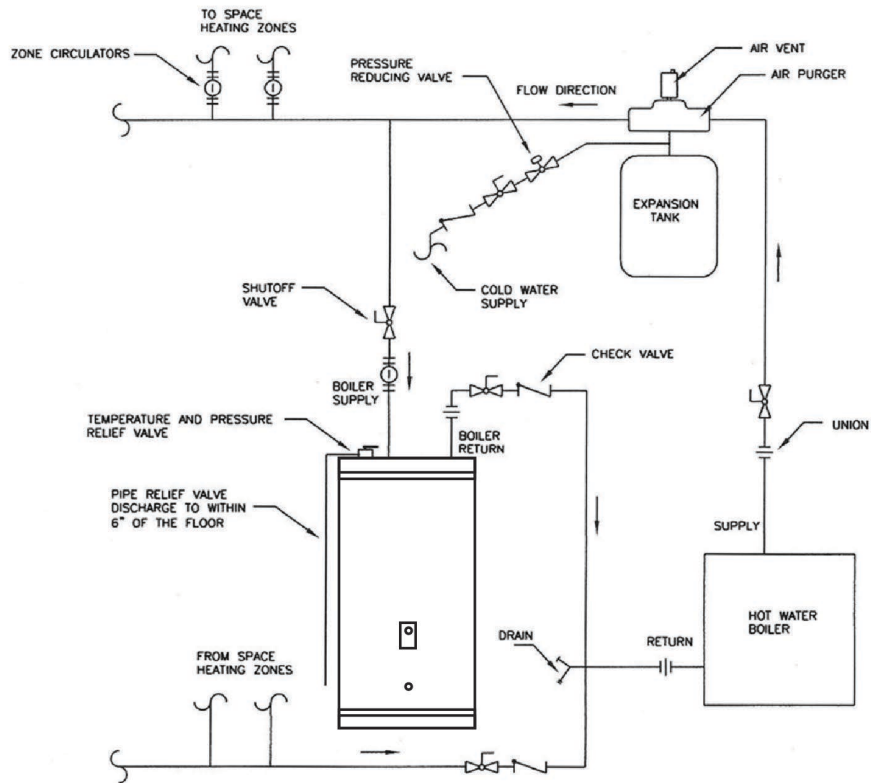
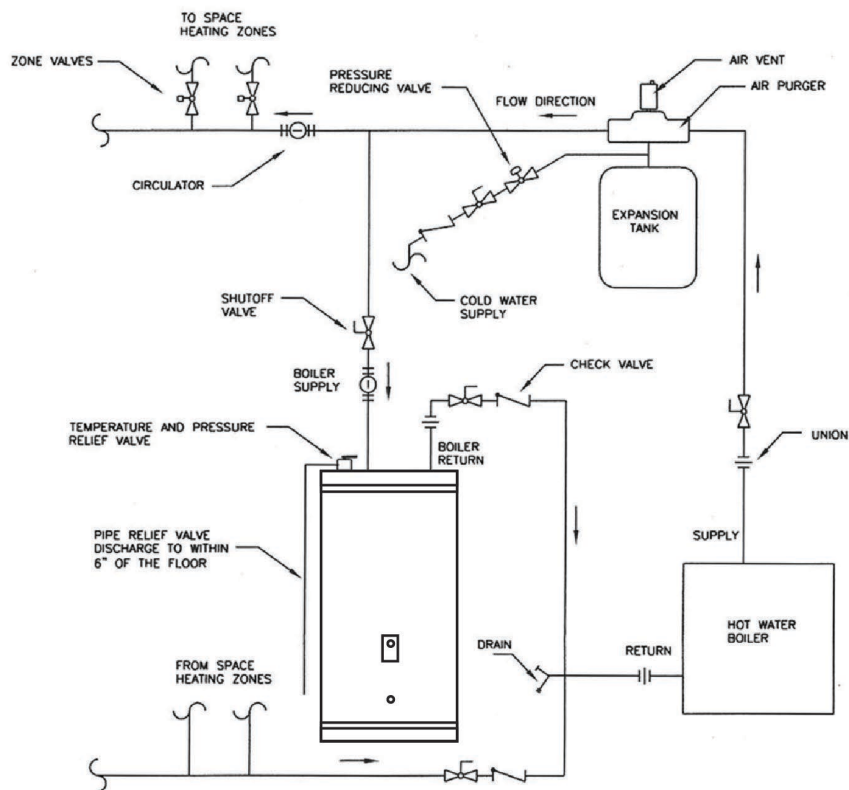

FIGURE 2 - BOILER WATER PIPING WITH ZONE CIRCULATORS
FIGURE 3 - BOILER WATER PIPING WITH ZONE VALVES
WATER BOILER PIPING (Refer to Figures 2 & 3 on Pg. 12)
1. Determine where the boiler, the space heating, and the water heater connections should be made based on the type of piping system that is either in place or is to be installed for a new hydronic system installation. See Figure 2 (Boiler Water Piping with Zone Circulators) and Figure 3 (Boiler Water Piping with Zone Valves).
For space heating systems that use Zone Circulators, refer to Figure 2 (page 12). The water heater connection labeled “BOILER SUPPLY” should be piped to the boiler supply piping after the air purger and before the space heating takeoffs. Mount the water heater circulator as close to the water heater as possible, and make sure the flow arrow points toward the water heater. The use of shut-off valves is recommended for future service convenience.
For a space heating system that uses Zone Valves, refer to Figure 3 (page 12). The water heater connection labeled “BOILER SUPPLY” should be piped to the boiler supply piping after the air purger and before the space heating circulator. Mount the water heater circulator as close to the water heater as possible, and make sure the flow arrow points toward the water heater. The use of a shut-off valve is recommended for future service convenience.